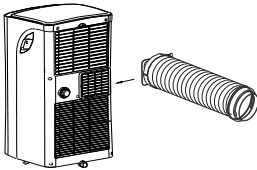

Fig.17
2. Push the exhaust hose into the airoutlet opening along the arrow direction(See Fig.17).